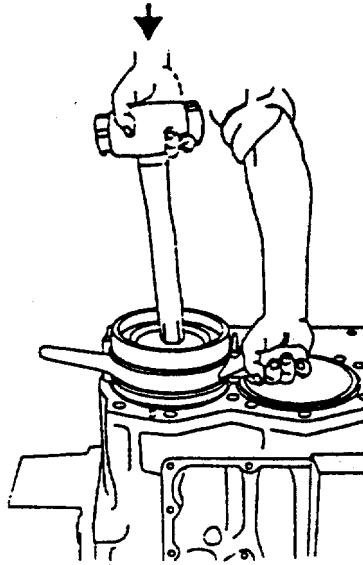

FIGURE 3-26. Piston and Connecting Rod Installation.
- (9) Insert connecting rod and piston into cylinder liner. Use the handle of a wooden hammer to push the piston into the liner (FIG. 3-26).